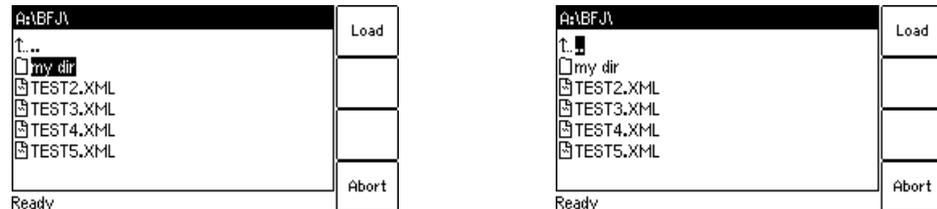

Figure 6-7 File system card for loading a report
After selecting one of the available file operation functions in the **File Menu**, the file system card is displayed showing the current path in its title bar and the file system elements in the card area (refer to Figure 6-7).
- To open a folder, select its entry (see Figure 6-7, left) using the   cursor keys and then press the  key.